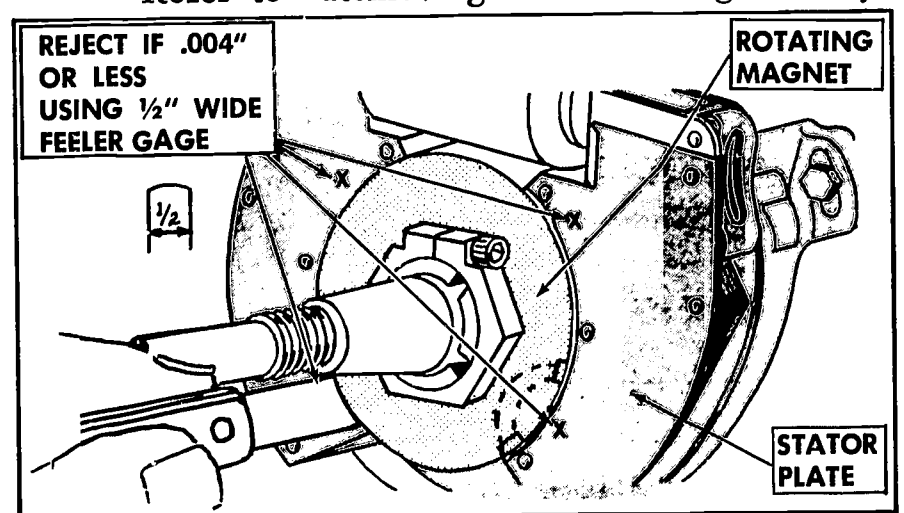

FIGURE 114. Check the stator-plate air gap in four places.
2. Check the clearance (Figure 114).
Check in four different places as shown in Figure 114. Move the magnets away from the gage when checking. This is done by turning the crankshaft by hand. Removing the spark